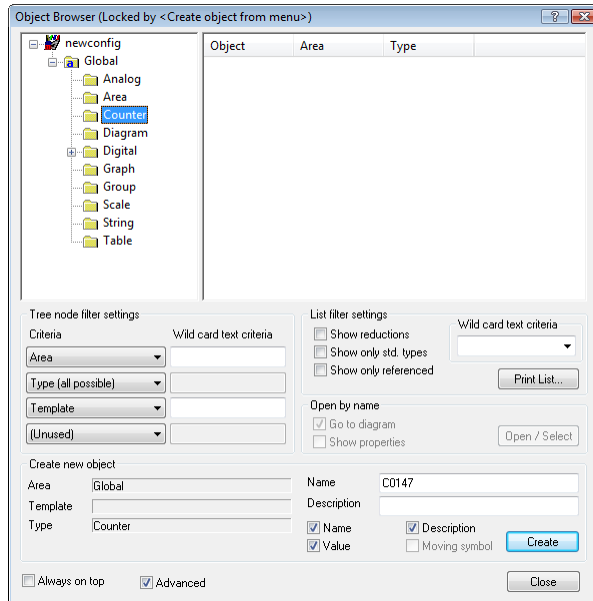

Figure 3.46 In the **Object Browser** you type the unique name of the object and an optional description.
- Select **Counter** and type the name and description as shown in Figure 3.46.